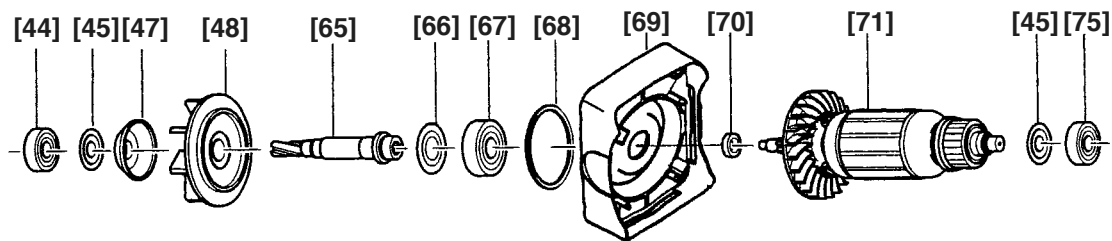

Fig. 19
(2) When assembling Housing [77], Casing (A) [69], Casing (B) [46] and Gear Cover [10], at first perform assembling of the dust collection mechanism ass'y [44], [45], [47], [48] and [65] to [69] and the armature section ([70], [71], [45] and [75]) as illustrated below. Then, reassemble the Housing [77], Casing (B) [46] and the Gear Cover [10] (Fig. 19). This procedure will significantly facilitate reassembly.